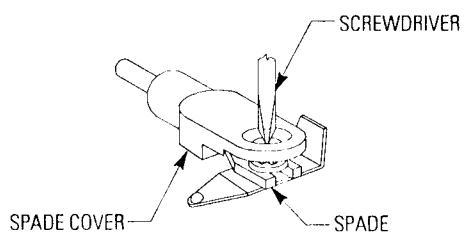

FIG. 5a
2. Lift the front of the insulating SPADE COVER then take the SPADE TERMINALS and place them under LAMP SCREWS (Fig. 5a); tighten the SCREW until the SPADE TERMINAL is secured.